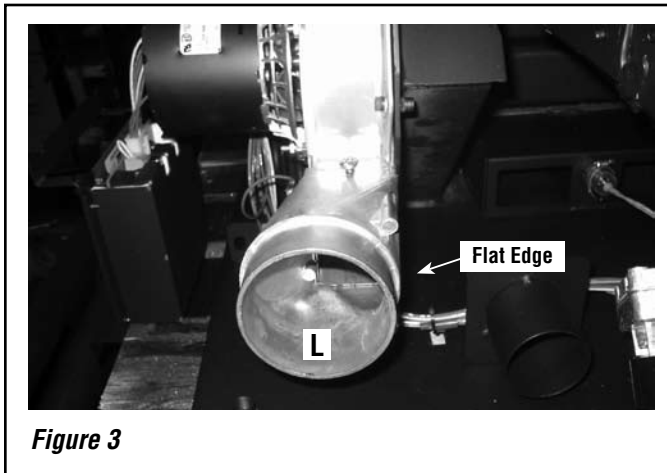

Figure 3
Step 2. When installing the rear vent adapter (L), ensure that the flat edge is directed towards the inside of the stove (see **Figure 3**).